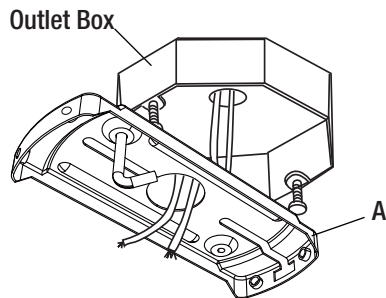
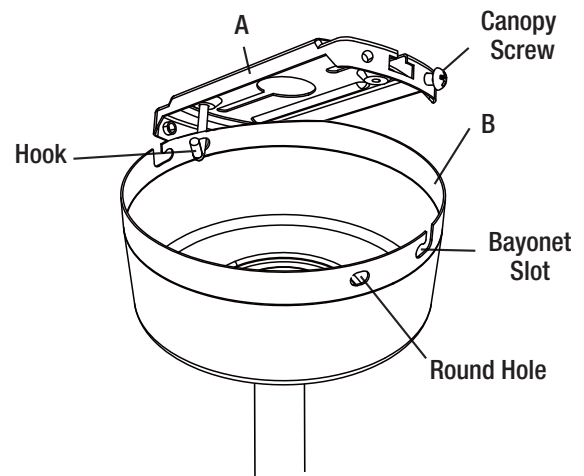

Figure 6
Figure 7
- Pass the 120-volt supply wires through the center hole in the mounting bracket (A) as shown in Figure 6.
- Attach the mounting bracket (A) on the electrical box by sliding the mounting bracket (A) over the screws provided with the outlet box. Make sure the mounting bracket (A) is level. You may need to insert additional washers (not provided) between the outlet box and the mounting bracket (A) to make it level. Note the flat side of the mounting bracket (A) should be toward the electrical box.
- Tighten the two mounting screws securely and carefully lift the fan assembly up to the mounting bracket (A).
- Before making any electrical connections, hook one of the screw holes on the ceiling canopy (B) with the hook on the mounting bracket (A) so it hangs (Figure 7).